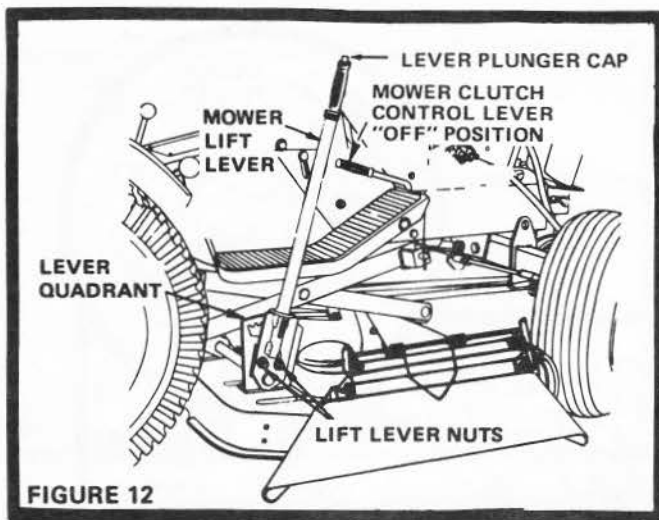
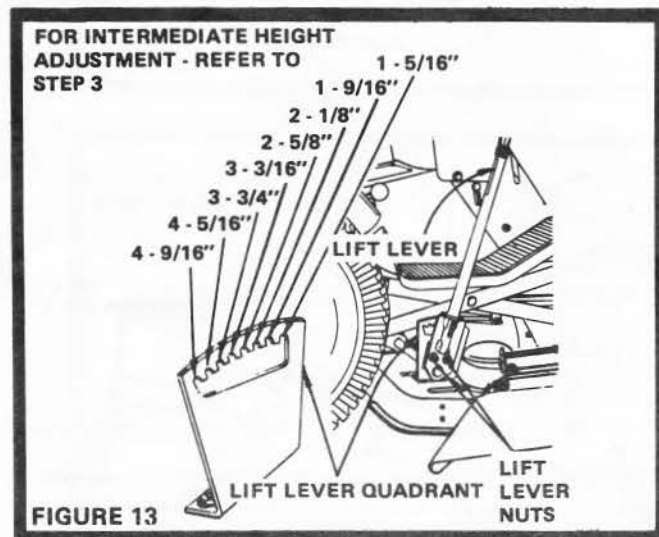

FIGURE 12
FIGURE 13
NOTE: Place Gear Shift Lever in neutral and unlock Parking Brake. Depress tractor clutch pedal and disengage ("OFF" position) Mower Clutch Control (Fig. 12 or 12A).
2. START MOWING IN A LOW RANGE AND INCREASE GROUND SPEED BY CHANGING GEARS AS CONDITIONS WILL PERMIT. Average cutting height is approximately 2 - 1/2 to 2 - 3/4 inches. Height of cut can be adjusted by means of the Lift Lever (Fig. 13). Moving the lever forward lowers the mower. Moving it backwards raises the mower. The lever latch is actuated by depressing the lever plunger cap at the top of the lever handle (Fig. 12). Each notch changes the height of cut approximately 1/2 inch.
3. Should some intermediate height be desired, loosen the two Nuts at the bottom of the Lift Lever (Fig. 13). Rotate the Lever forward or backward relative to the shaft. Forward movement will raise the height of cut. Rearward movement will lower the height of cut. This adjustment will raise or lower the cutting range approximately 1/2 inch - the equivalent of one notch on the Lift Lever Quadrant. Retighten Lift Lever Nuts securely.